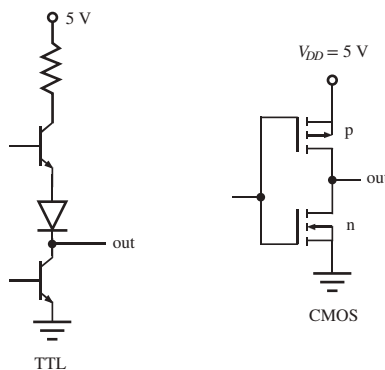
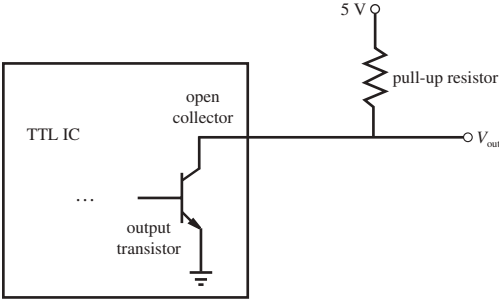

Figure 6.23 TTL and CMOS output circuits.
Figure 6.29 Open-collector output with pull-up resistor.
We now examine the equivalent output circuits for TTL and CMOS devices. Referring to Figure 6.23, TTL logic switches between states by forward biasing one of the two output transistors. This output circuit is called a **totem pole** configuration, where two bipolar junction transistors are stacked between power and ground. When the upper transistor is forward biased and the bottom transistor is off, the output is high. The resistor, transistor, and diode drop the actual output voltage to a value typically about 3.4–4 V. When the lower transistor is forward biased and the top transistor is off, the output is low. You can see that the TTL device must source current when there is a high output and sinks current when the output is low. The values of the sink and source currents depend on the TTL subfamily. When the output of a TTL device is connected to the input of another, the TTL device dissipates power continuously regardless of whether the output is high or low.
CMOS logic ICs employ complementary pairs of p-type and n-type enhancement-mode MOS transistors at their outputs, hence the name **complimentary MOS (CMOS)**. Referring to the CMOS output circuit in Figure 6.23, if the input signal to this output stage is high, the p-type transistor (top) is off and the n-type transistor (bottom) is on, so the output is pulled low. When the input is low, the top
Figure 6.23 shows the output circuits for TTL and CMOS devices. Study these circuits and convince yourself why TTL devices require power to maintain output levels when connected to other TTL devices and CMOS devices do not require power when connected to other CMOS devices.
Three different types of output circuits are used in TTL devices. The most common is the **totem pole** configuration, where two transistors are stacked between power and ground as shown in Figures 6.23 and 6.24. The second type of output circuit is known as an **open-collector output**. As shown in Figure 6.29, this configuration requires an external **pull-up resistor** connected to a power supply to produce the output states. When the output transistor is saturated (ON), V_{out} is low; and when it is in cutoff (OFF), V_{out} is high. Some devices that include this type of output include the 7401, 7403, 7405, and 7406. The third type of output circuit is known as the **tristate output**, where an additional input signal controls a third output state. When enabled, the third state produces a high-output impedance that effectively disconnects the output from any circuit to which it is attached. This permits attaching multiple devices to a single line where only one output would be enabled at a time (e.g., in the bus of a computer).
Some CMOS devices, instead of having a full CMOS output stage as shown in Figures 6.23 and 6.27, have an **open-drain** output, which is analogous to the TTL open-collector output.